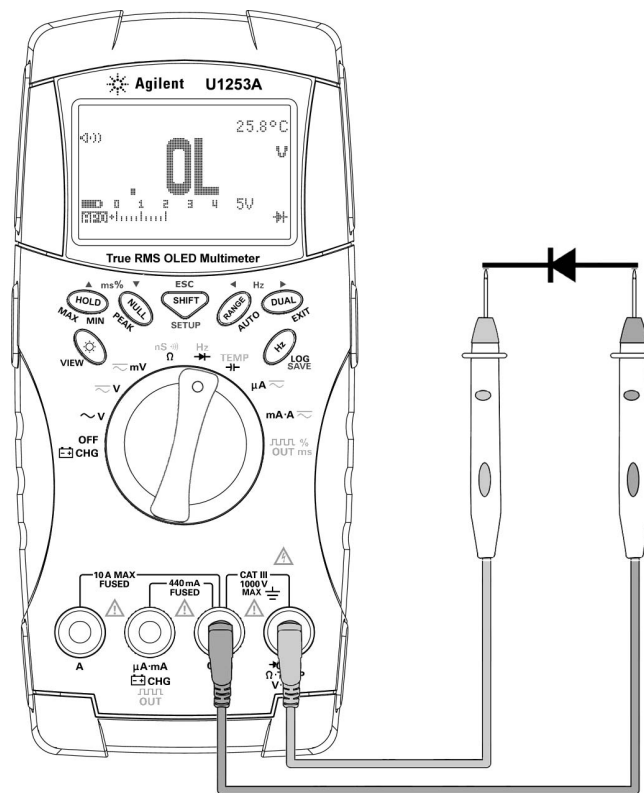

Figure 2-11 Measuring the reverse bias of a diode
- 5 Reverse the probes and measure the voltage across the diode again (refer to Figure 2-11 on page 47). Assess the diode according to the following guidelines: